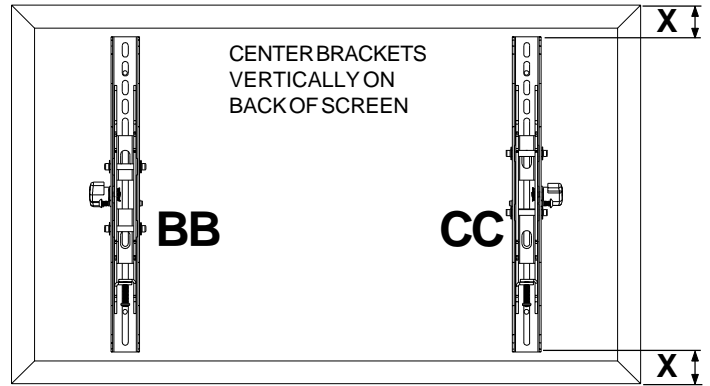

fig 2.1
- 2** To prevent scratching the screen, set a cloth on a flat, level surface that will support the weight of the screen. Place screen face side down. If screen has knobs on the back, remove them to allow the adapter brackets to be attached. Place tilt brackets (**BB** and **CC**) on back of screen. Align to holes, and center on back of screen as shown in figure 2.1. Attach the tilt brackets to the back of the screen using the appropriate combination of screws, multi-washers, and spacers as shown in figure 2.3. **Note:** Be sure to attach tilt brackets with knobs facing outward as in figure 2.1.